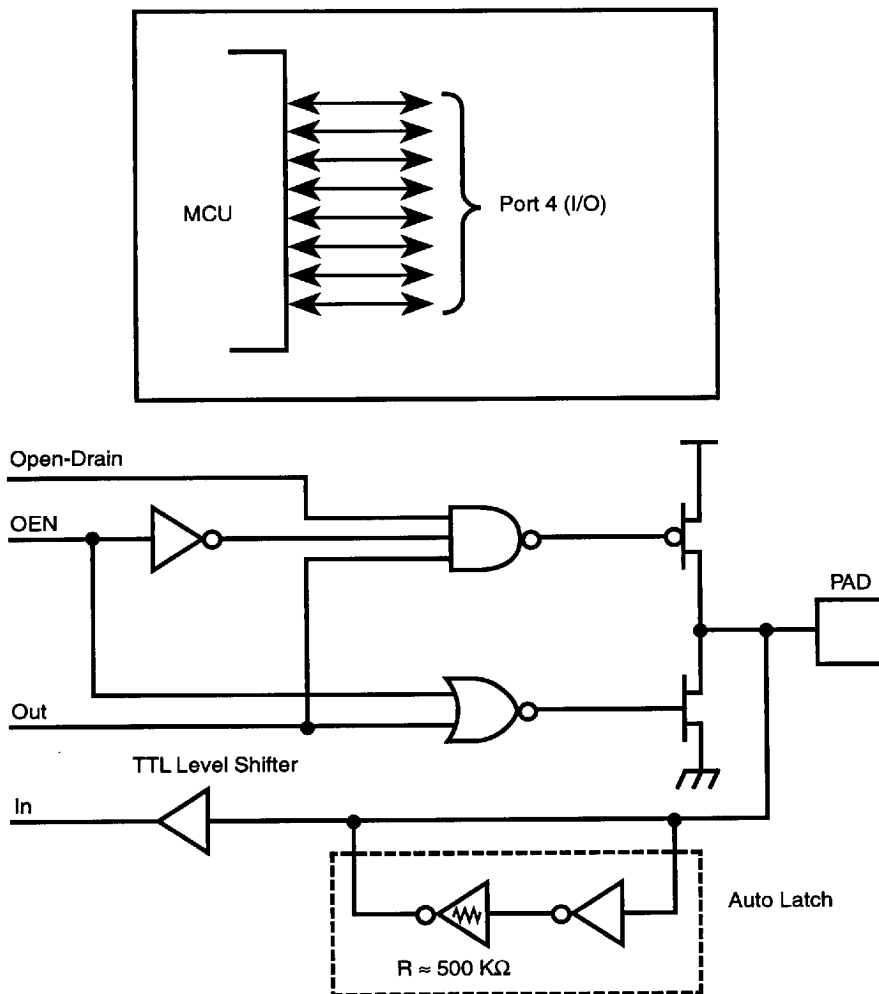

Figure 14. Port 4 Configuration
**Port 4** (P47-P40). Port 4 is an 8-bit, bit programmable, bi-directional, CMOS compatible port. Each of these eight I/O lines can be independently programmed as an input or output or globally as an open-drain output. Port 4 is always available for I/O operation (Figure 14). Port address (F)02.
**Port 5** (P57-P50). Same as Port 4. Port address (F)04.
**Port 6** (P63-P60). Same as Port 4. (**Note:** this is a 4-bit port, bits D3-D0.) Port address (F)07.